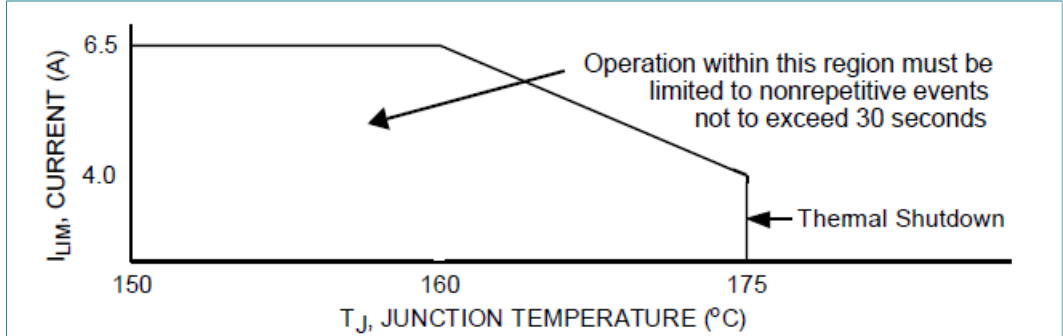
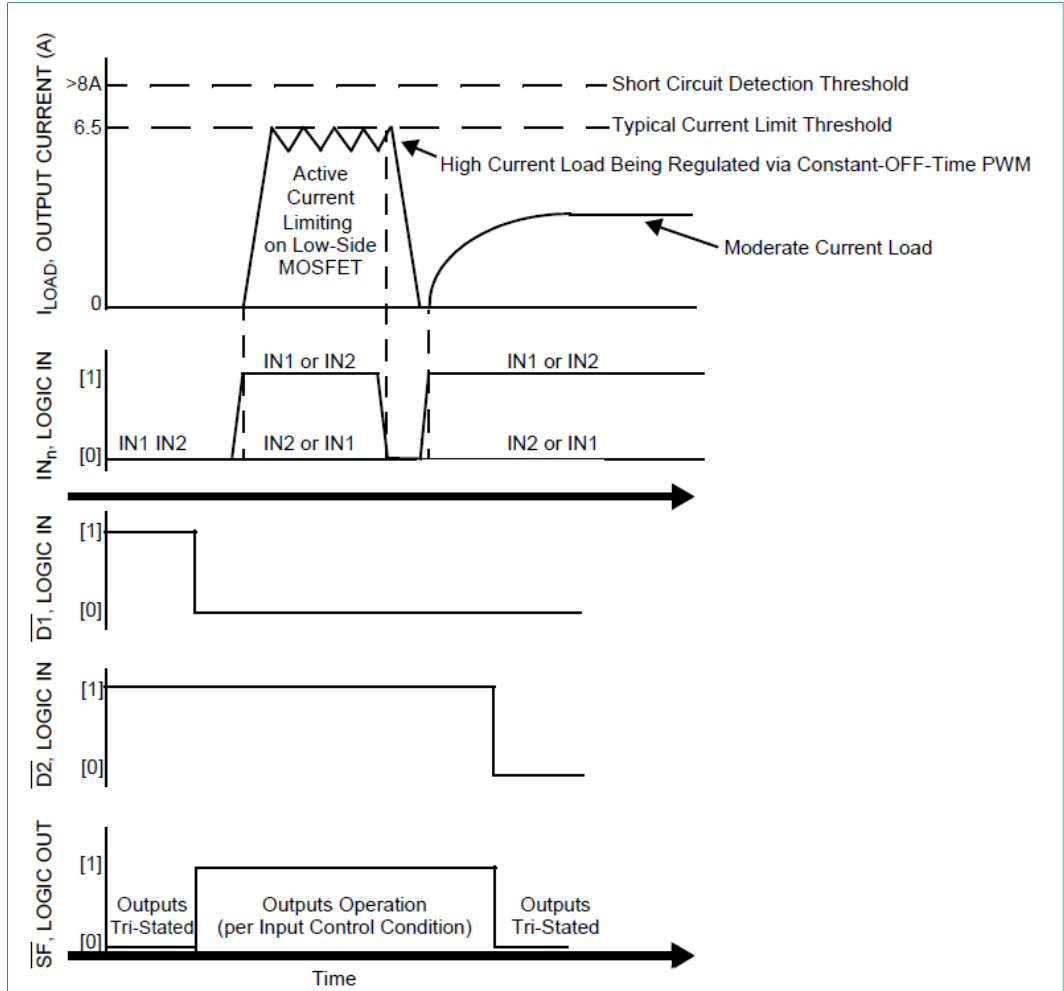

Figure 9. Active current limiting versus temperature (typical)
Figure 10. Operating states
- [5] Load currents ramping up to the current regulation threshold become limited at the I_{LIM} value. The short-circuit current possess a di/dt that ramps up to the I_{SCH} or I_{SCL} threshold during the I_{LIM} blanking time, registering as a short-circuit event detection and causing the shutdown circuitry to force the output into an immediate 3-state latch OFF. See Figure 10 and Figure 11. Operation in current limit mode may cause junction temperatures to rise. Junction temperatures above ~160 °C causes the output current limit threshold to progressively foldback, or decrease with temperature, until ~175 °C is reached, after which the T_{LIM} thermal latch OFF occurs. Permissible operation within this foldback region is limited to nonrepetitive transient events of duration not to exceed 30 seconds. See Figure 9.
The current limiting threshold value is dependent upon the device junction temperature. When $-40\text{ }^\circ\text{C} \leq T_J \leq 160\text{ }^\circ\text{C}$, I_{LIM} is between 5.2 A to 7.8 A. When T_J exceeds 160 °C, the I_{LIM} current decreases linearly down to 4.0 A typical at 175 °C. Above 175 °C the device overtemperature circuit detects T_{LIM} and overtemperature shutdown occurs (see Figure 9). This feature allows the device to remain operational for a longer time but at a regressing output performance level at junction temperatures above 160 °C.